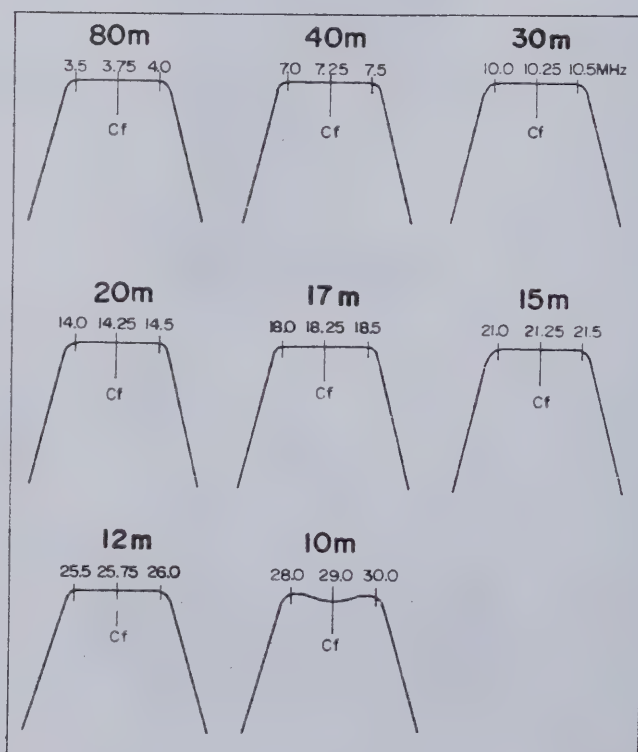

Figure 3-18 RF BANDPASS FILTER
- Adjust the transformers shown in Table 3-5 for the pattern shown in Figure 3-18.